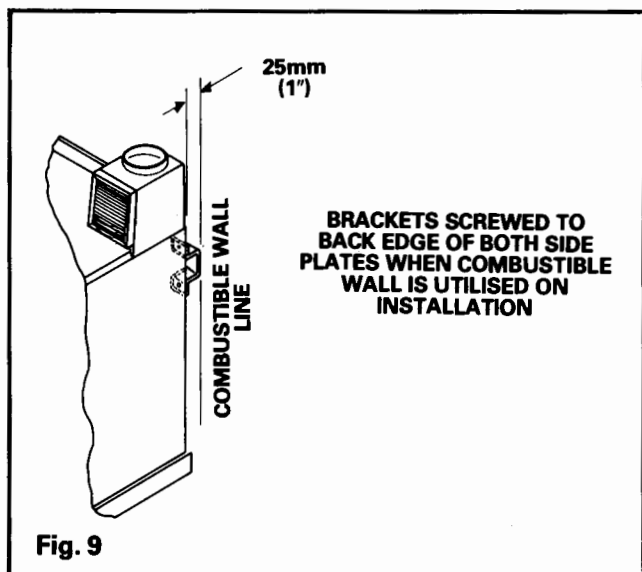

Fig. 9
3. Appliance rear distance bracket – For use when the appliance is installed near a rear wall of combustible material – See Fig. 9.
NOTE: IF THE REAR WALL IS OF COMBUSTIBLE MATERIAL, THERE MUST BE AN AIR GAP OF 25mm (1in) BETWEEN THE WALL AND REAR OF APPLIANCE. FIT REAR DISTANCE BRACKET AS SHOWN IN FIG. 9.
2. Remove flue chamber cover from flue chamber and confirm setting of exposed flue damper stabiliser is set at 'LO' position. See Fig. 9